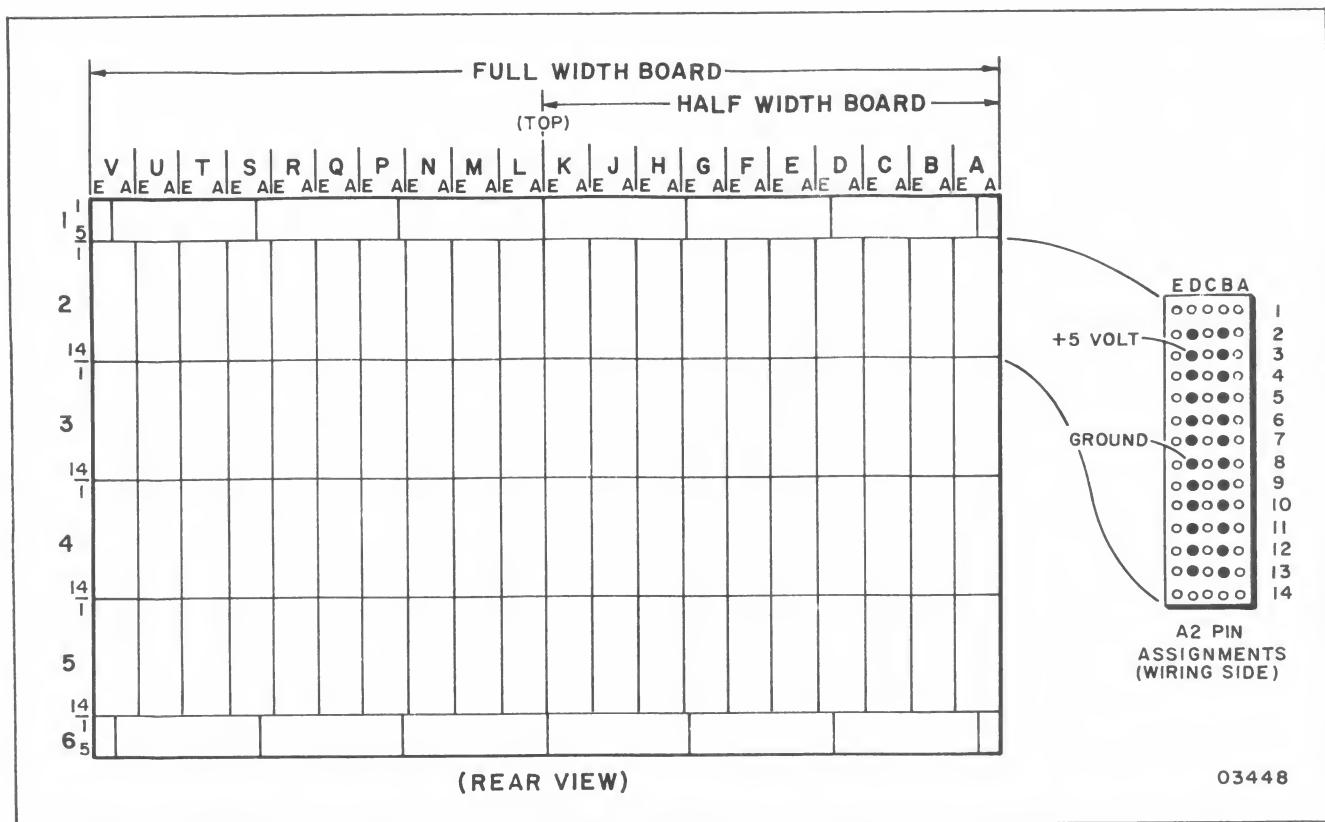

Figure 3-3. Backpanel Pin Configuration
c. Connect a voltmeter to backpanel pins as follows (refer to figure 3-3 for the backpanel pin configuration):
d. Apply power to the Series/1 and adjust the +5V potentiometer (figure 3-3) for +5V +/-0.5V. Adjust the potentiometer as close to nominal as possible.